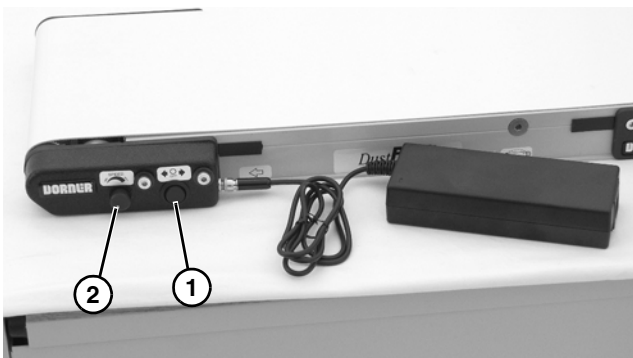

Figure 28
2. Select conveyor running direction with directional switch (Figure 28, item 1).
3. Select conveyor speed with speed control knob (Figure 28, item 2).
6. Select conveyor running direction with directional switch (**Figure 28, item 1**). If Dark-On operation is selected, temporarily block photo eye to energize conveyor.
7. Select conveyor speed with speed control knob (**Figure 28, item 2**).